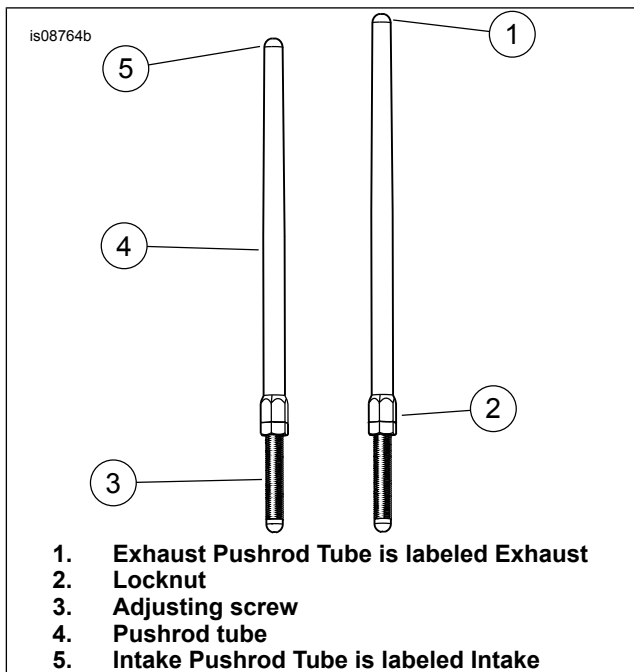

Figure 1. Adjustable Pushrod
5. Refer to Figure 1. Loosen locknut on all of the pushrods and adjust them to their shortest length.